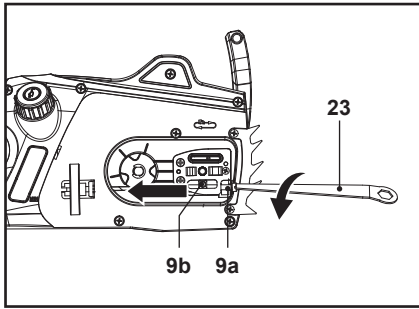

Fig. 1a
2. Place the product on a suitable flat surface with the front handle (1) facing upward.
3. Loosen the retaining nut (6) with the spanner (23) and remove it together with the cover (7).
4. Ensure the tension pin (9b) is positioned to the left side, adjust it turning the tension screw (9a) anticlockwise with the multitool (23) if required (Fig. 1a).